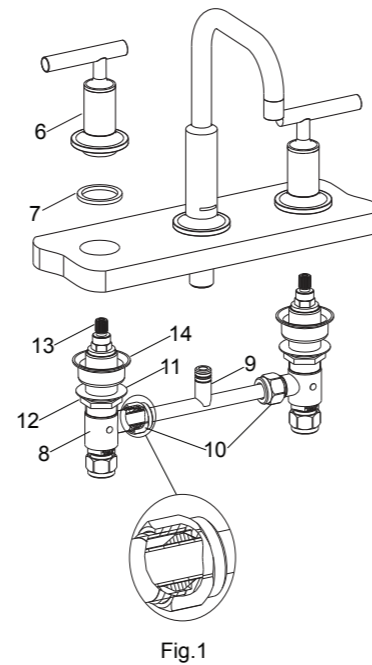

Fig.1
- 1.) Remove the handle kits(6) and the rubber washers(7) from the side bodies(8). Retain the steel washers(11), the nuts(12), the dished washers(14) and the spline adapters(13) on the side bodies.
- 2.) Trim the tee-piece(9) to suit the basin hole centres. Loosen the nuts(10) on the side bodies, and assemble the tee-piece to the side bodies as Fig.1 shown. Tighten the nuts(10) by hand.
- 3.) Insert the side bodies with the nuts(12), the washers(11) and dished washers(14) through the mounting holes from underside of the basin (The side body with the red dot should be on the left when facing the front of the spout), and locate the tee-piece onto the spout shank.
- 4.) If the tee-piece cannot be inserted into the shank, you can loosen the nuts(10) by hand, and adjust the tee-piece position. Then tighten the nuts(10) with a wrench.
- 5.) Install the rubber washers(7) on the side bodies. Press the handle kits(6) onto the spline adapter(13), and tighten the handle kits(6) until they contacts the deck as Fig.1 shown.